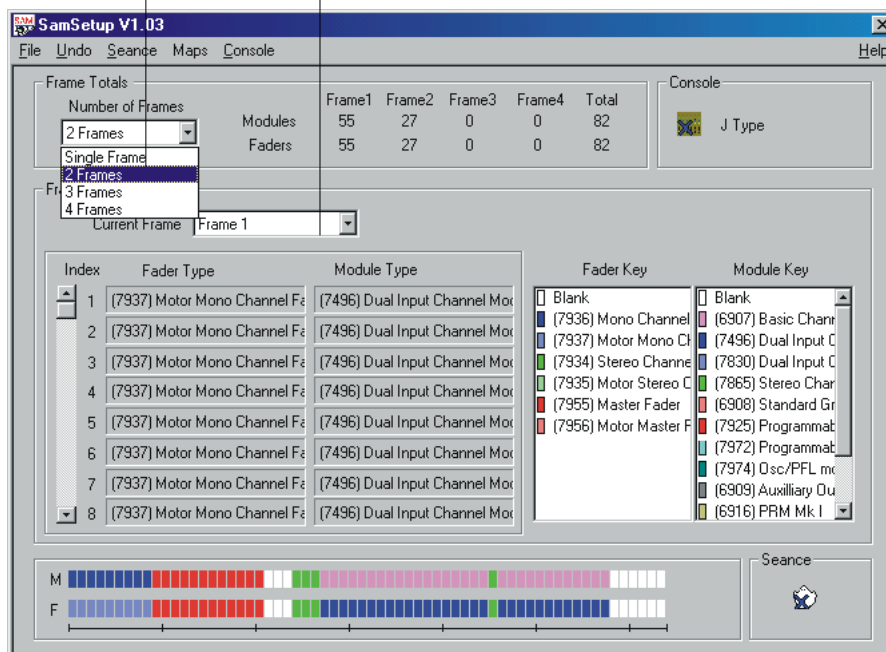
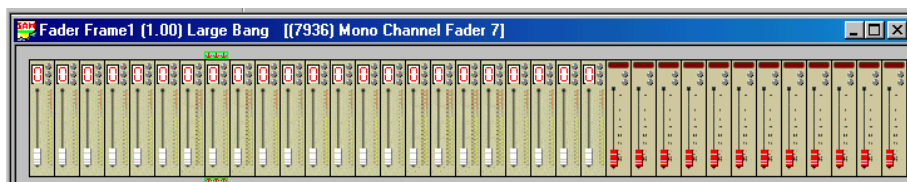

FIG 2-2. Selecting number of frames to configure.
FIG 2-3. In SAM the computer generates a picture of the console on the screen.
- Select the appropriate number in the Number of frames menu selection in the section Frame totals, see fig 2-2.
Once the console type and number of frames have been selected, select the frame into which you want to add modules. If the frame you want to edit is not shown, click on the arrow to view the Current Frame menu (see fig 2-2). When you have placed modules in each frame, SAM can generate a picture of the console on the VDU screen (see fig 2-3). This picture will assist you in entering cue information and getting an overall view of console performance without you having to have access to the console itself.